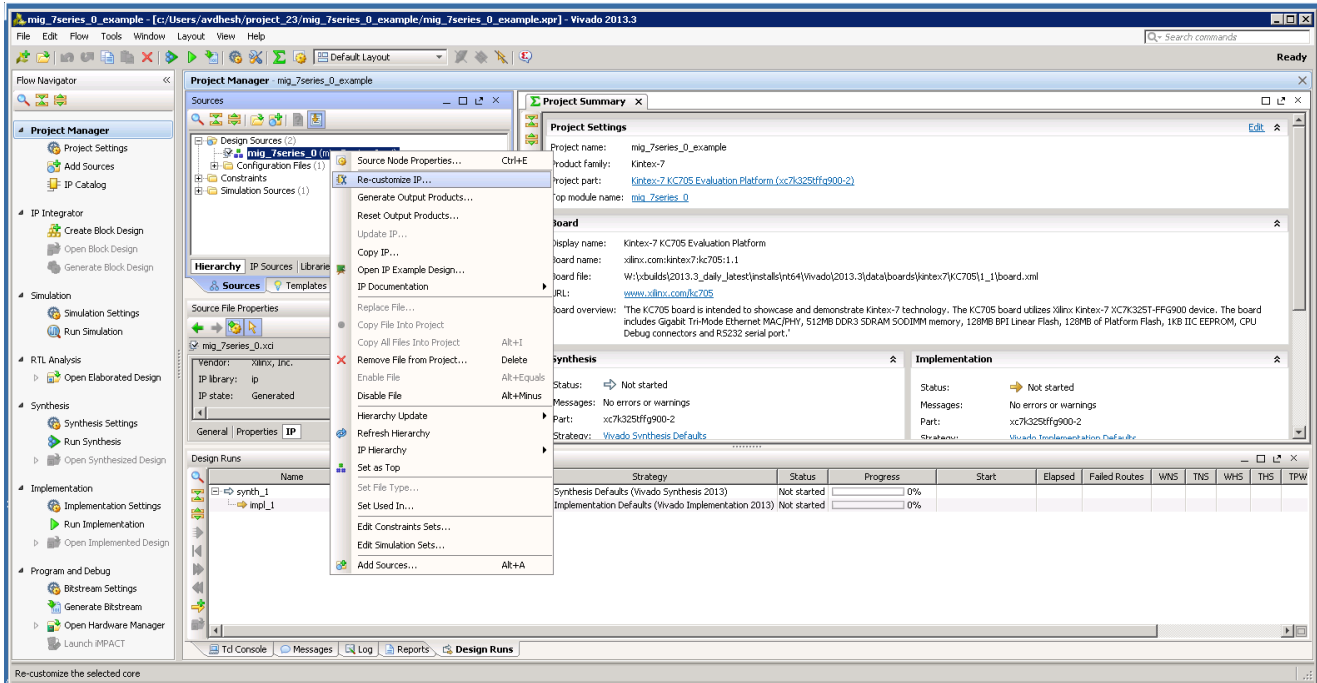

Figure 3-34: Recustomize IP
12. Recustomization of the MIG IP core can be done by using the **Recustomize IP** option. It is not recommended to recustomize the IP in the `example_design` project. The correct solution is to close the `example_design` project, go back to original project and customize there. Right-click the XCI file and click **Recustomize IP** (Figure 3-34) to open the MIG GUI and regenerate the design with the preferred options.